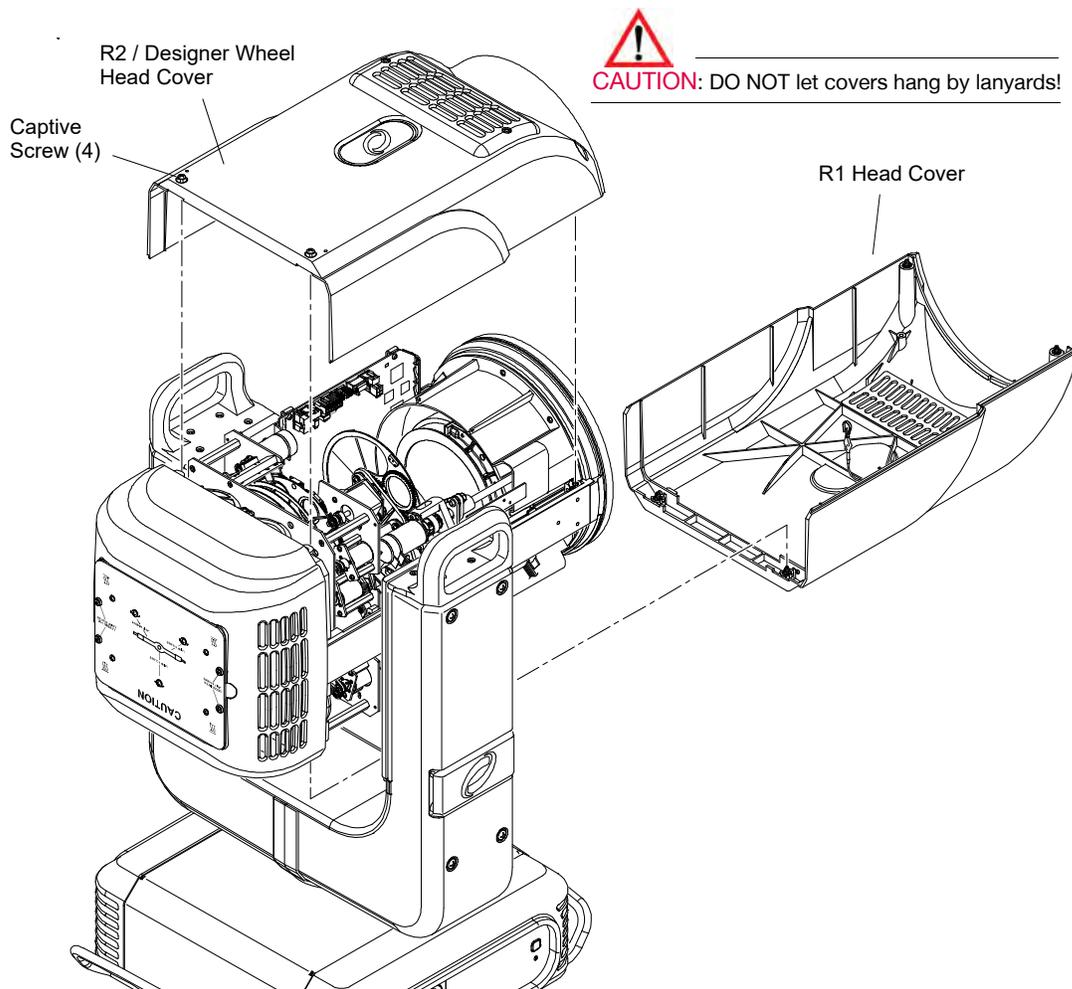

Figure 3-2: Removing Head Covers
- Step 1. At cover, loosen four captive screws (**Figure 3-2**). (Cover will still be secured by a safety lanyard.)